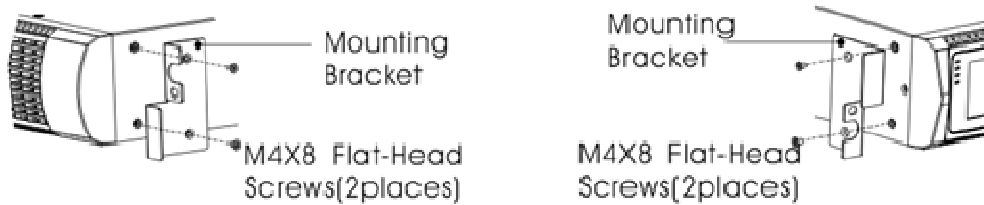

Figure5 Installing the Mounting Brackets
1. Select the proper size in the rack for positioning the UPS (see Figure 5). The rail occupies four positions on the front and rear of the rack.